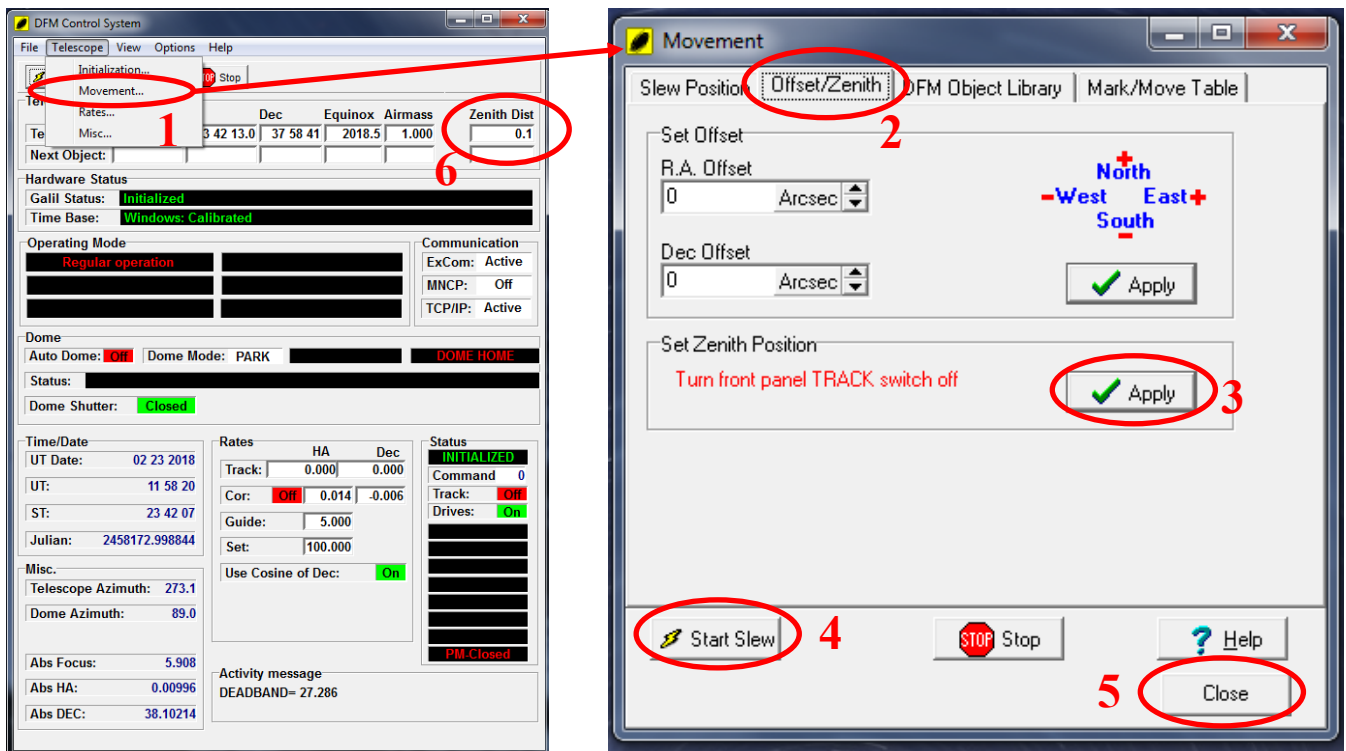

Fig. 2.20. Pointing the telescope at the zenith (parking) position.
- i. Click on the “Telescope” tab and select “Movement” (Fig. 2.20. No 1). The “Movement” window opens.